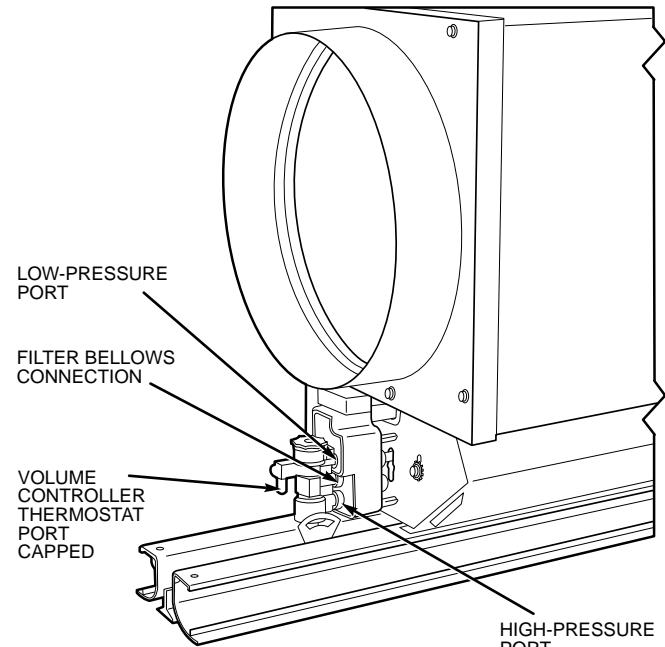

Fig. 10 — Constant Volume Control Installed on Unit
6. To complete installation, moisten the O-rings of the volume controller with water and push the volume controller directly into the control filter. See Fig. 10 and 11.